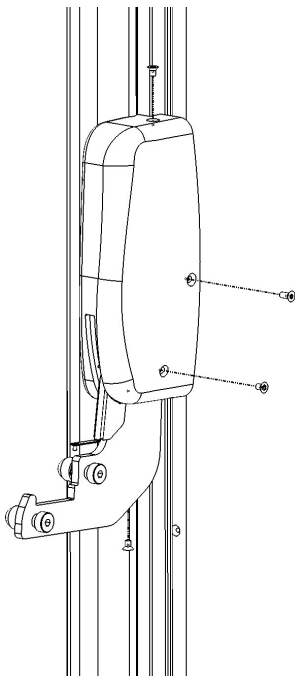

Fig 12.11c
- Align the four screw holes and refit with the previously removed screws, see Fig 12.11c.